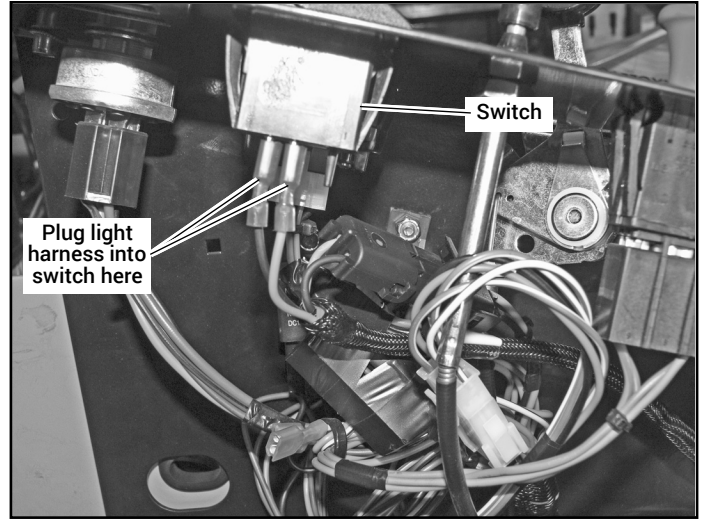

FIG. 7
11. Attach the light harness' two female connectors to the switch. FIG. 7